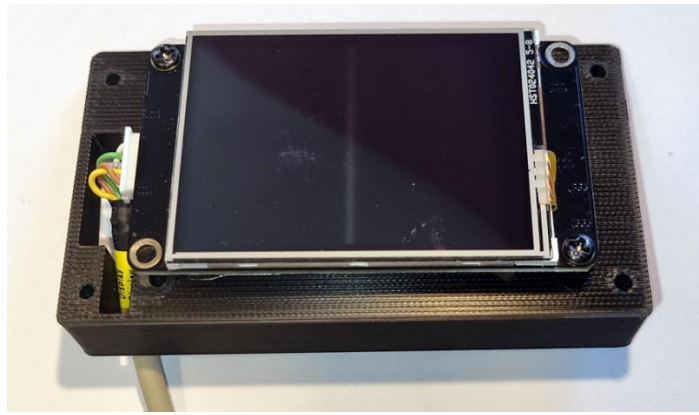

Fig. 5.3
- Insert the DISPLAY CABLE in the case and plug it in. (fig. 5.3).